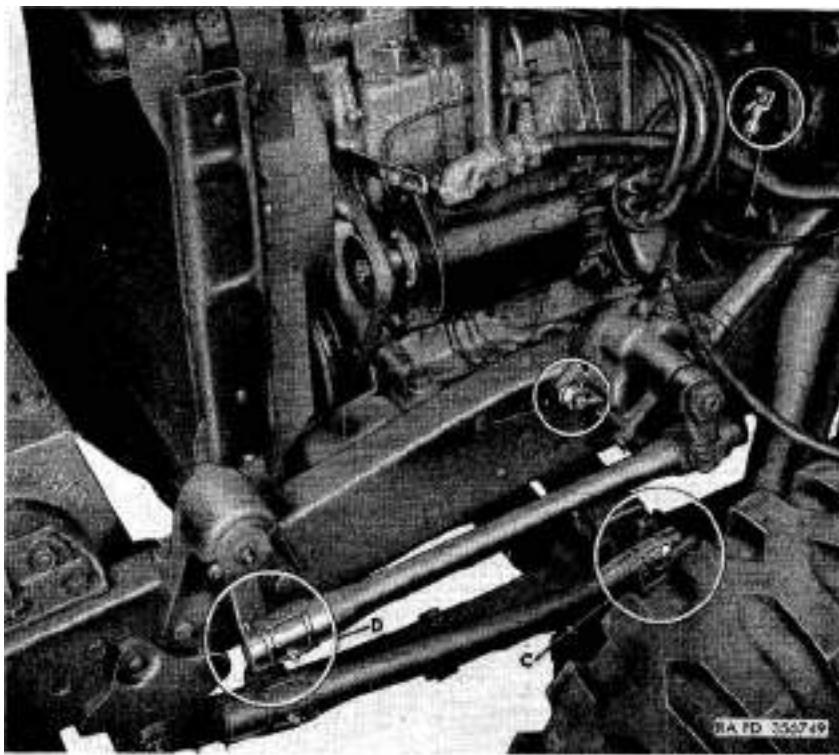
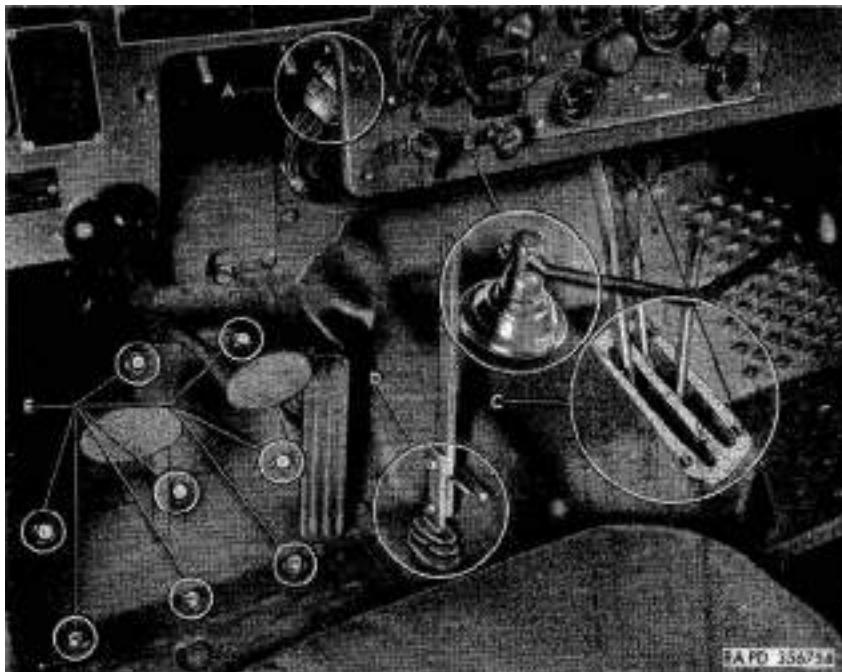
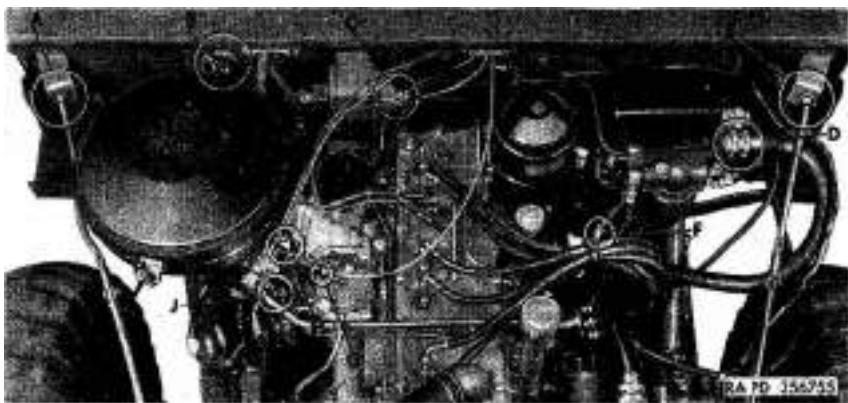

Figure 16. Steering gear and drag link disconnect points.
Figure 21. Cab disconnect points.
Figure 22. Cab disconnect points.
- (4) Disconnect pitman-arm-to-idler-arm drag link assembly at steering idler arm (D, *fig. 16*).
- (5) Disconnect steering gear housing at frame (three cap screws, plain washers, lock washers, and nuts) (B, fig. 16). Remove steering gear assembly from front end of cab.
- (1) Remove clutch and brake pedal cover from cab (eight lock washer screws) (E, fig. 21).
- (2) Remove power-take-off upper shift lever (on vehicles so equipped) (two screws and lock washers). Pull power-take-off shift lever weatherseal from floor transmission cover (D, fig. 21).
- (3) Remove transmission upper shift lever (one screw, lock washer, and nut). Remove shift lever weatherseal from floor transmission cover (B, fig. 21).
- (4) Remove brake-and-transfer lever weatherseal retainer assembly from floor transmission cover (four screws and lock washers) (C, fig. 21).
- (5) Remove light switch from instrument panel (four screws and lock washers). Disconnect body wiring harness from right side of light switch (A, fig. 21) with a spanner wrench. Disconnect cable at fuel gage. Remove harness from clips on cowl inside panel and engine side of cowl front panel. Remove grommet from right side of cowl front panel and pull body cable (light switch) harness from cab (B, fig. 22).
- (6) Loosen nuts (A and E, fig. 22). Remove radiator tie rods from cowl brackets.
- (7) Disconnect cables from starter switch terminal stud (A, fig. 16).
- (8) Disconnect slave receptacle ground cable at left running board front hanger (one cap screw, three lock washers, and nut).
- (9) Disconnect speedometer cable at transfer and remove cable from frame side rail clips.
- (10) Disconnect water temperature gage cable at water temperature gage sending unit, rear of cylinder head.
- (11) Disconnect generator-to-regulator harness assembly at generator regulator (D, fig. 22) with a spanner wrench.
- (12) Disconnect fuel filter flexible lines at line fittings (F, fig. 22).
- (13) Disconnect ignition distributor cable at filter (C, fig. 22).
- (14) Disconnect accelerator pedal rod at accelerator bell crank lever (one clevis pin and cotter pin).
- (15) Disconnect choke control at carburetor (G, fig. 22).
- (16) Disconnect throttle control at throttle linkage bell crank on intake manifold.
- (17) Disconnect fording controls (H and J, fig. 22) at crank-case ventilator shut off valves.
- (18) Disconnect carburetor throttle spring at cowl.
- (19) Disconnect engine primer inlet line at intake manifold tee.
- (20) Disconnect windshield wiper hose from windshield wiper manifold tube.
- (21) Remove cotter pins, nuts, springs, and plain washers
(1) Disconnect idler-arm-to-steering-arm drag link assembly (C, fig. 16) at steering arm on front axle,